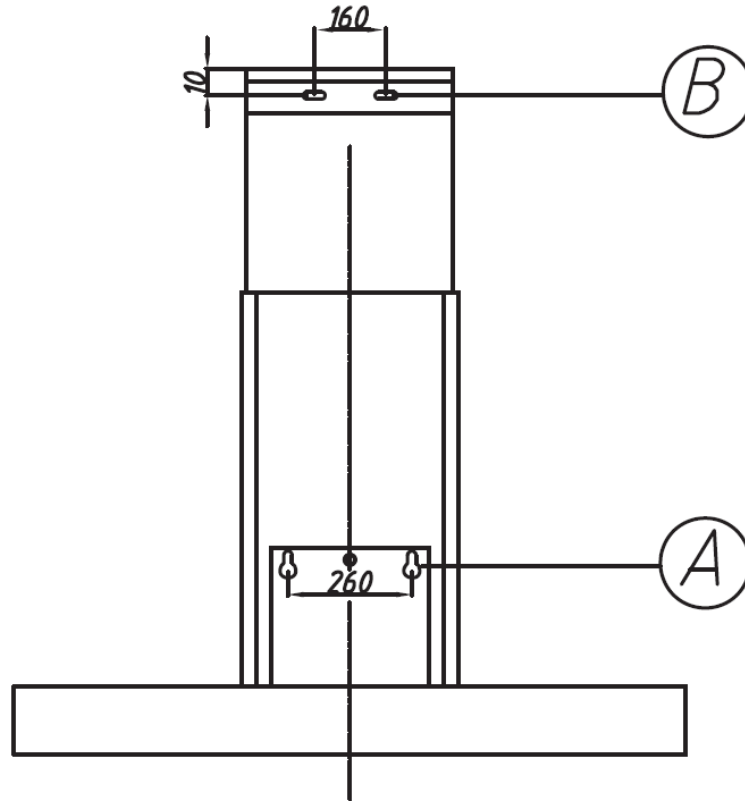

Fig 1.
1. At the two range hood mounting points marked in H (refer to page 4), drill a small pilot hole using a  $\varnothing 6$  drill bit, to a depth of approximately 40mm. After drilling, the distance between two mounting holes should be 260mm shown as A in Fig 1. below.
1. At the two flue bracket mounting points marked in J (refer to page 4), drill a small pilot hole using a 6mm drill bit, to a depth of approximately 40mm. After drilling, the distance between two mounting holes should be 160mm as indicated as B in above Fig. 1 (refer to page 5).